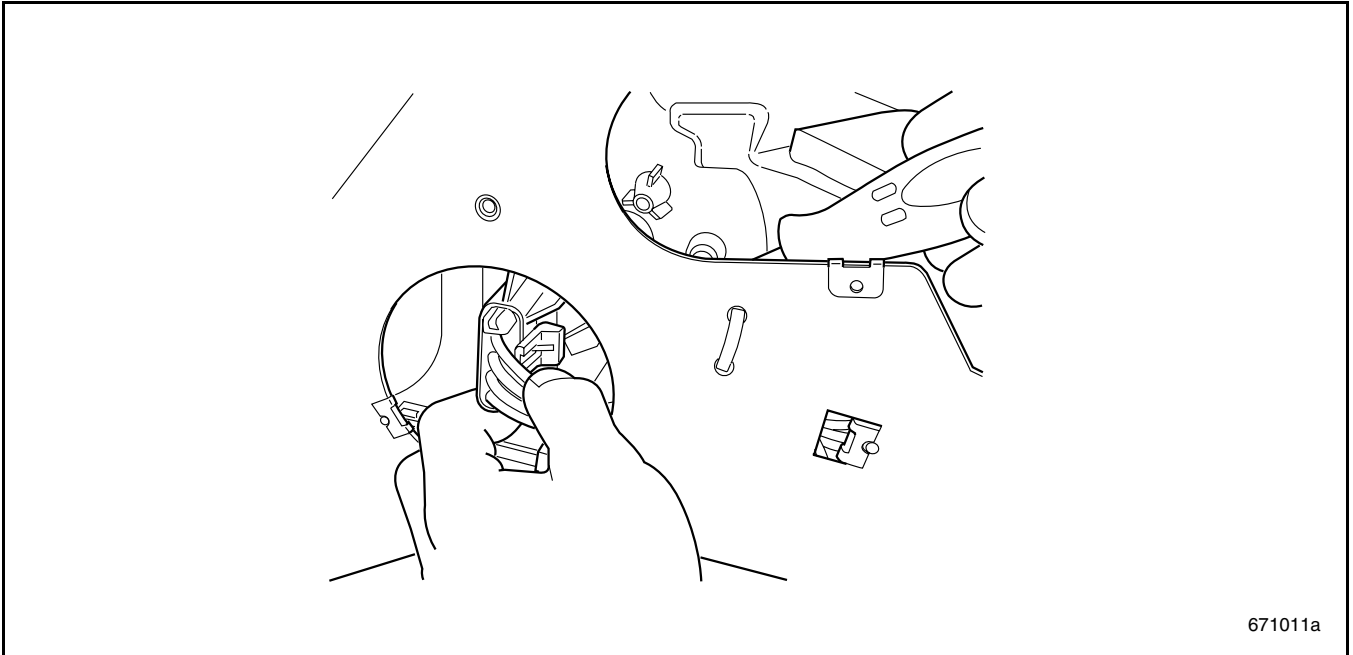

Figure 38 — Disconnecting “Credit Card” Resistor Connector
3. Disconnect the harness connector from the resistor card by using a screwdriver to release the locking tab and pulling the connector toward the left as shown in Figure 38.